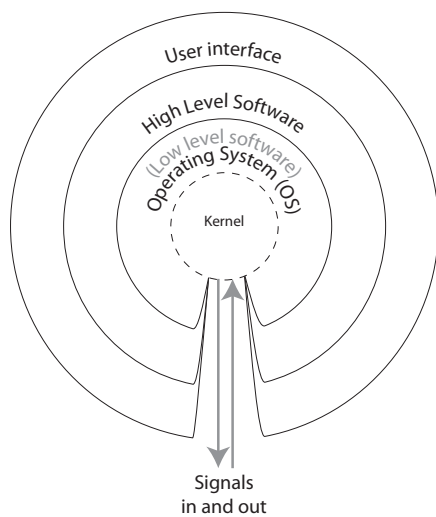

Fig 2: Component parts of the software in a computer system.
Fig 2 shows a simplified view of the component parts of the software in a computer system, and they have direct relevance both to CNC systems as a whole, and to Mach3 and similar software. In broad and simplistic terms, the user uses “high level” software packages such as word processors or games or CNC programs. Those programs use the Operating System (OS) to run within the computer system.